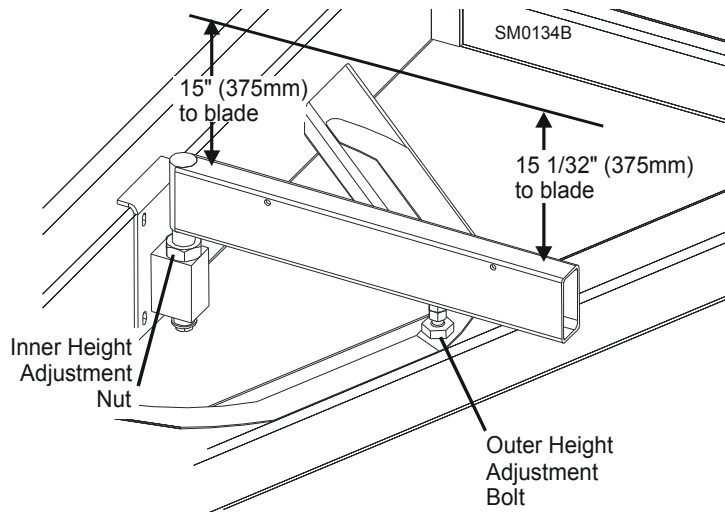

**FIG. 5-23**
**See Figure 5-23.** To adjust the saw head tilt, use the bolts located at the bottom of the saw head mast. Loosen the three sets of four retaining plate bolts. To raise the outside of the saw head, back the stop bolts out, then tighten the adjustment bolts. To lower the outside of the saw head, loosen the adjustment bolts and tighten the stop bolts. Recheck the saw head tilt and readjust the bolts as necessary.